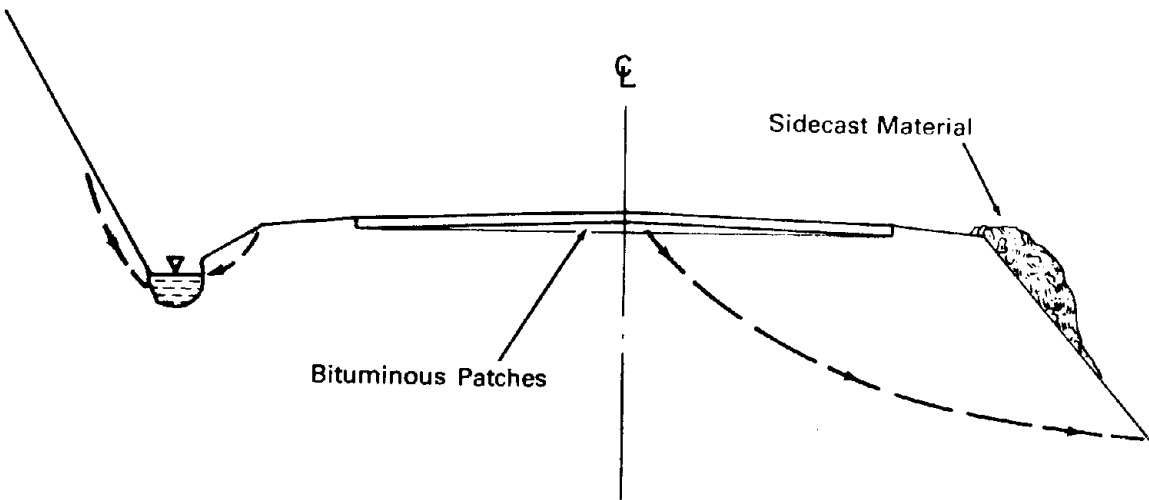

Figure 6. Overloading with asphalt overlays.
- e. Do not overload top of fill with bituminous patching overlays in slide or settlement areas (figure 6).